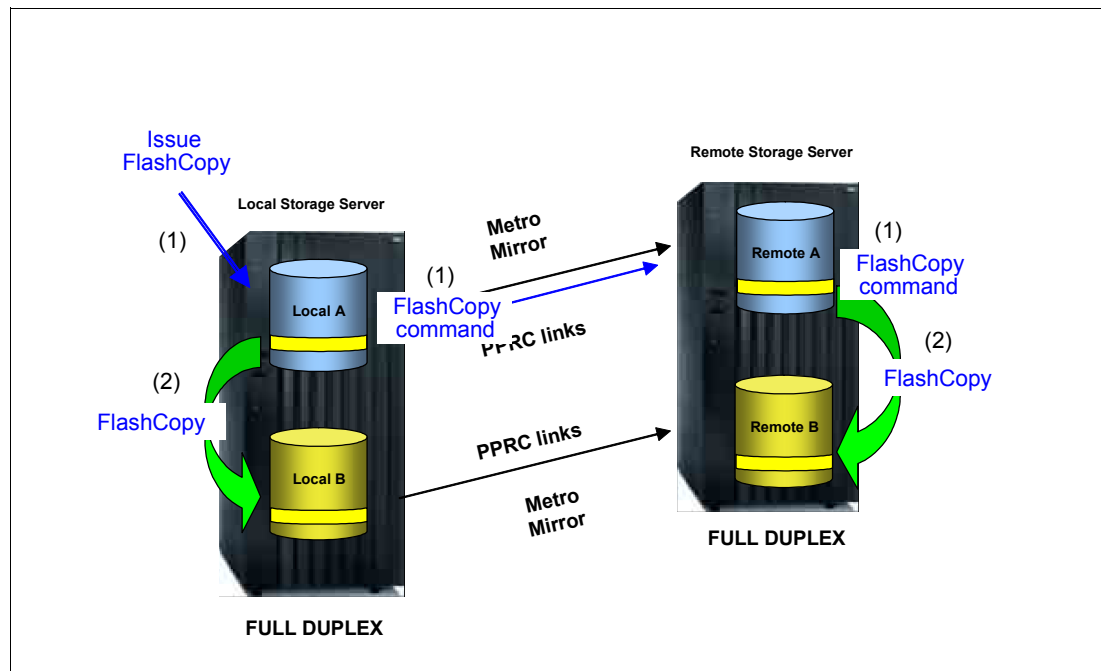

Figure 6-3 Remote Pair FlashCopy preserves the Metro Mirror FULL DUPLEX state
As the name implies, Preserve Mirror does preserve the existing Metro Mirror status of FULL DUPLEX. Figure 6-3 shows this approach, which guarantees that there is no discontinuity of the disaster recovery readiness.
2. Independently of each other, the Local Storage Server and the Remote Storage Server then execute the FlashCopy operation. The Local Storage Server coordinates the activities at the end and takes action if the FlashCopies do not succeed at both Storage Servers. Figure 6-3 shows an example where Remote Pair FlashCopy might have the most relevance: A data set level FlashCopy in a Metro Mirror CKD volumes environment